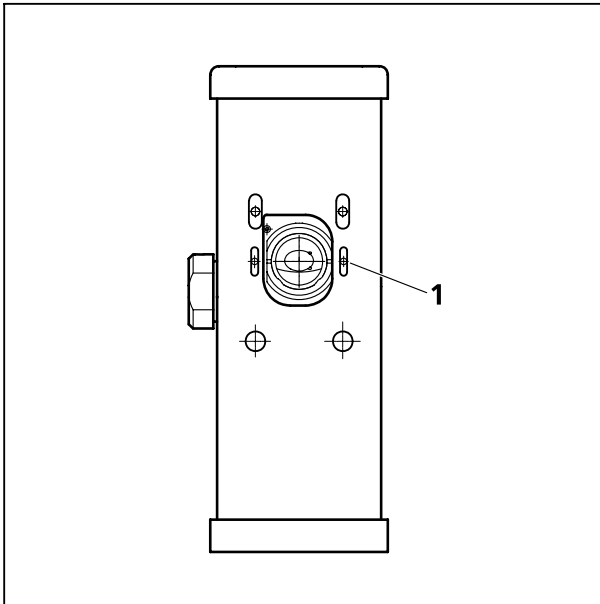

Fig. 26 Shutter opening on the periscope. Also applies for the large periscope for upright microscopes.
- Open the shutter in the periscope using an Allen key (Fig. 26/1) and slide in the tube completely, this will hold the shutter open.